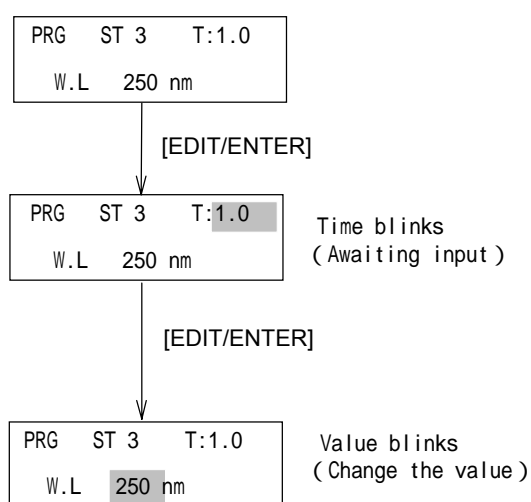

Figure 6.6 Correcting time program
- 3) Enter the correct setting. For example, when changing only the wavelength, perform the operations shown in Fig. 6.6. However, if settings are changed starting from time, the function selection screen will appear.